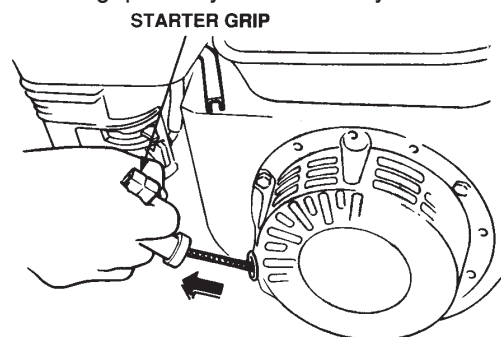

Figure 10. Starter Grip
6. Grasp the **recoil starter grip** (Figure 10) and slowly pull it out. The resistance becomes the hardest at a certain position, corresponding to the compression point. Pull the starter grip briskly and smoothly for starting.